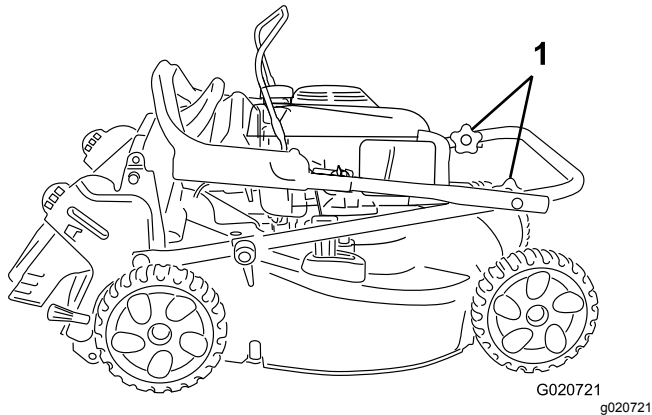

Figure 3
1. Loosen the handle knobs (Figure 3).